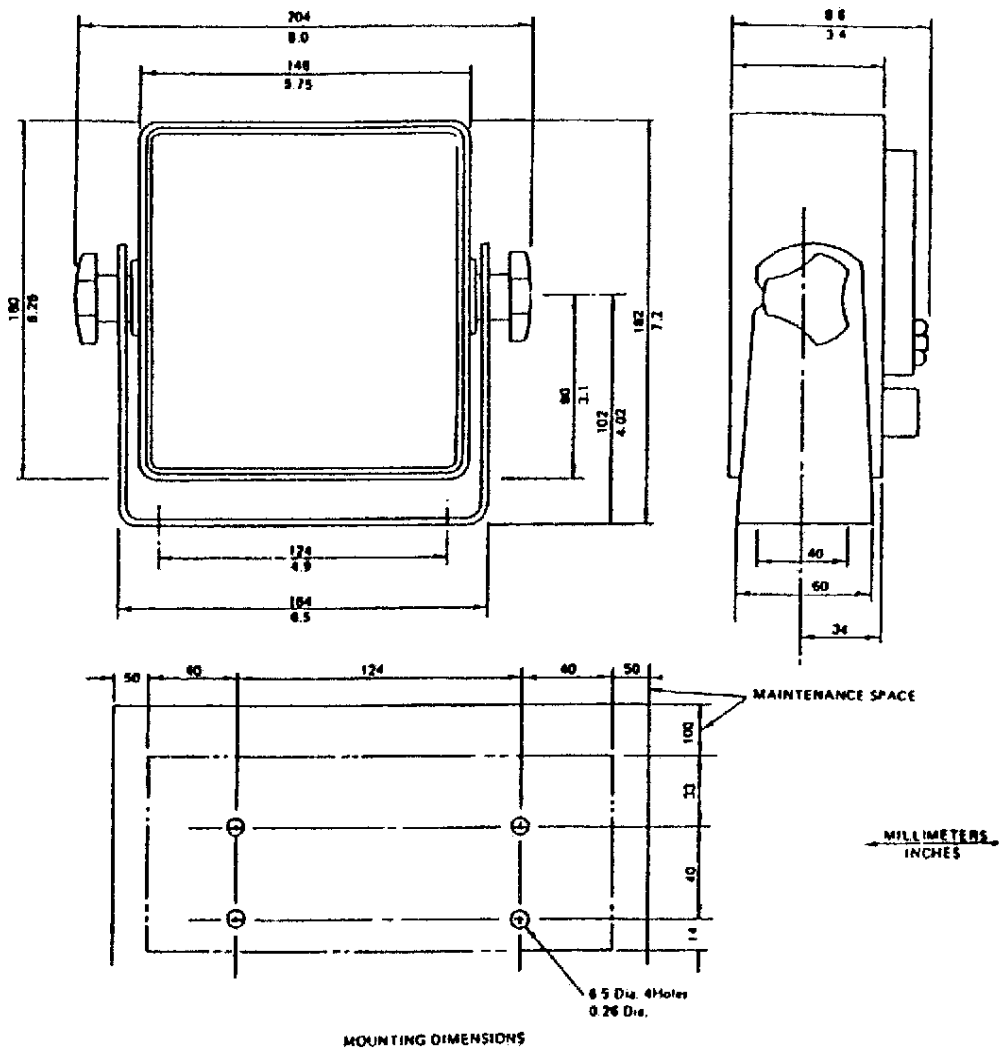

Figure 4. Mounting Dimensions
2.1.1 Receiver Installation. Figure 4 Mounting Dimensions, illustrates the standard table-top mounting configuration with the trunnion mounting located on the bottom of the receiver. For bulkhead or overhead mounting, the trunnion must be repositioned at the top of the receiver.
1. See Figure 4 for mounting hole dimensions.